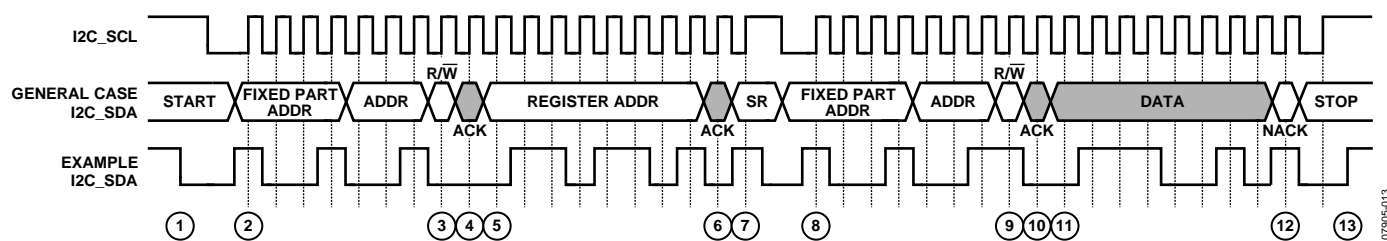

Figure 29. I2C Read Procedure
To read data from the ADV3002 register set, an I2C master (such as a microcontroller) needs to send the appropriate control signals to the ADV3002 slave device. The signals are controlled by the I2C master unless otherwise specified. For a diagram of the procedure, see Figure 29. The steps for a read procedure are as follows:
3. Send the write indicator bit (0).
9. Send the read indicator bit (1).
- a. Send a no acknowledge (NACK) followed by a stop condition (while holding the I2C\_SCL line high, pull the SDA line high) and release control of the bus to end the transaction (shown in Figure 29).